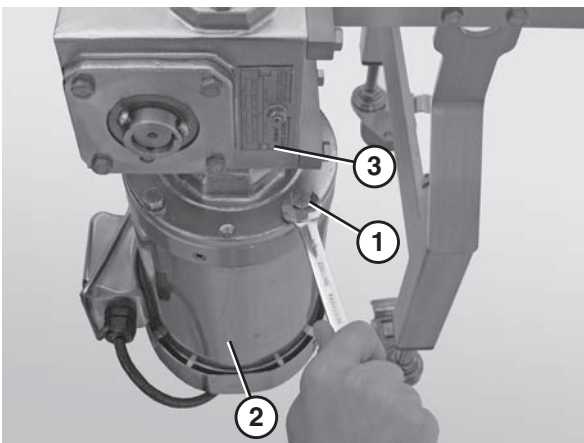

Figure 58
3. Remove the bolts (**Figure 58, item 1**) that connect the motor (**Figure 58, item 2**) to the gear reducer (**Figure 58, item 3**) and remove the motor (vertical mount drive package shown).